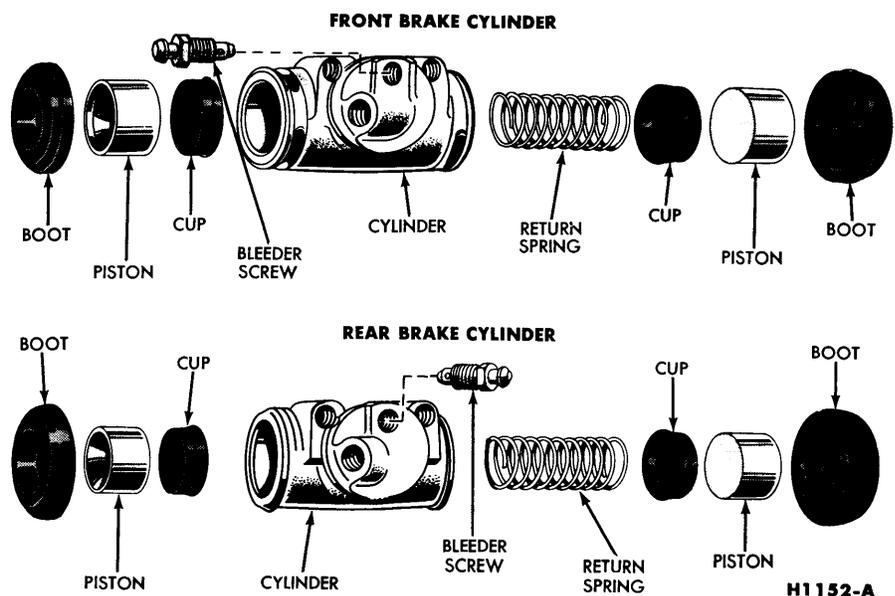

FIG. 11—Front and Rear Brake Cylinders
1. Remove the links and the rubber boots from the ends of the brake cylinder. Remove the pistons, cups, and return spring from the cylinder bore (Fig. 11).
3. Insert the return spring, cups, and pistons into their respective positions in the cylinder bore (Fig. 11). Place a boot over each end of the cylinder.